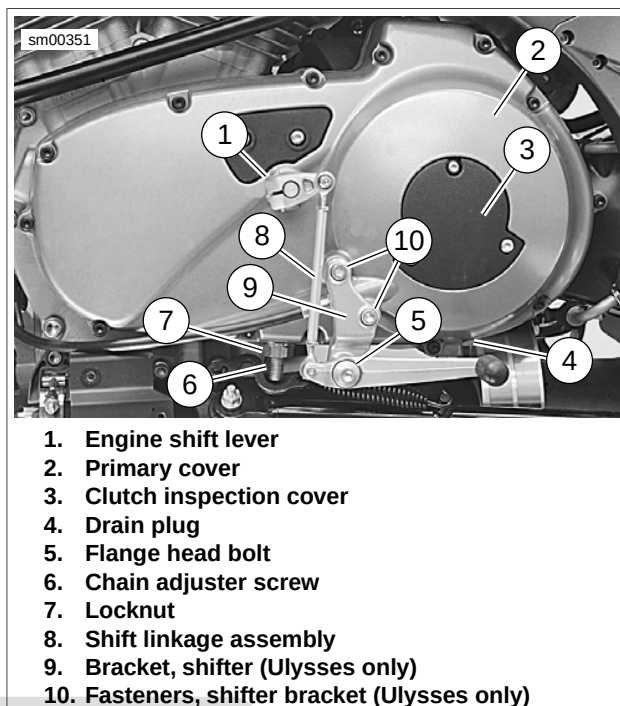

Figure 6-1. Removing Primary Cover (Ulysses Shown)
4. See Figure 6-1. Place a drain pan under the engine/primary area. Remove drain plug (4) and drain lubricant from primary drive.
5. Remove engine shift lever assembly (1) and rubber washer. Use care not to scratch primary cover.
6. Remove flange head bolt (5).
7. For Ulysses only, remove shifter bracket fasteners (10) and shifter bracket (9) from primary cover.
9. See Figure 6-1. Loosen locknut (7). Turn chain adjuster screw (6) counterclockwise to remove tension on primary chain.
10. See Figure 6-1. Remove clutch inspection cover (3).
12. See Figure 6-1. Remove screws which secure primary cover (2). Remove cover and gasket.